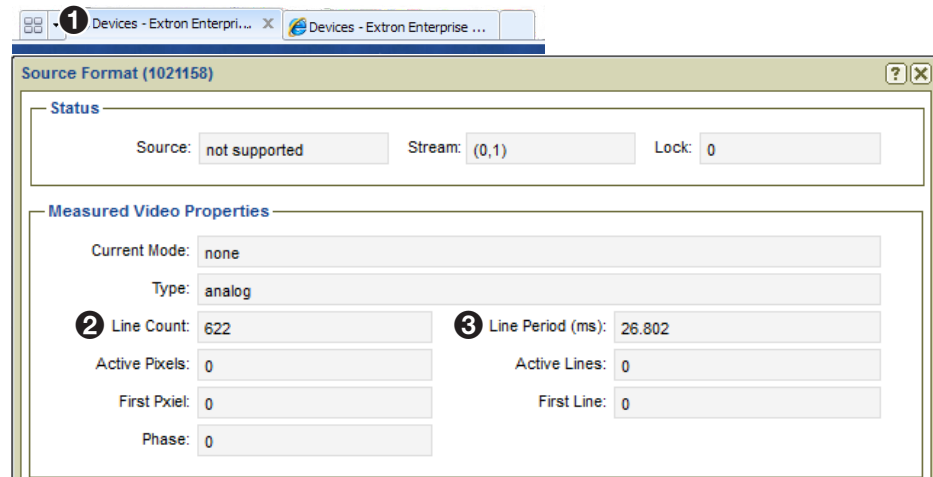

Figure 132. Source Format Line Count and Line Period (ms)
20. Return to the left tab (see figure 132, ❶) where the **Source Format** dialog box is open. Note the values in the **Line Count** (❷) and **Line Period (ms)** (❸) fields.